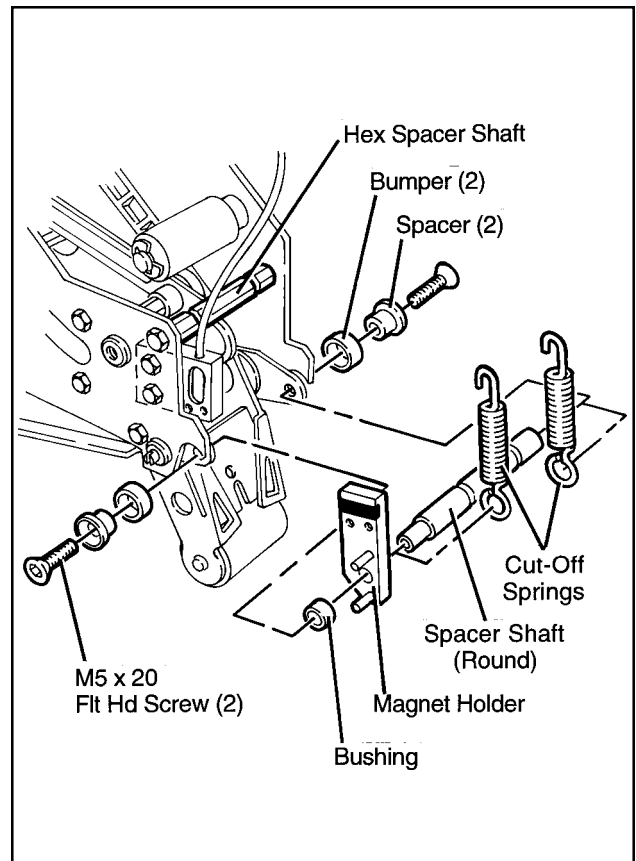

Figure 2-7
- Assemble the new magnet shaft, magnet holder, bushing and cut-off springs as shown in Figure 2-7. Hold assembly together and insert into cut-off frame with magnet holder **towards** box presence sensor. The two dowels on the magnet holder will locate the magnet holder on the cutoff frame.
- Attach magnet shaft to cut-off frame with bumpers, spacers and M5 x 20 flat head screws removed previously. See Figure 2-7. **Do not tighten screws** (to be tightened after later alignment).
- Remove the hex spacer shaft shown in Figure 2-7 and install new hex spacer shaft. Install with spring grooves aligned vertically with grooves in magnet spacer shaft.